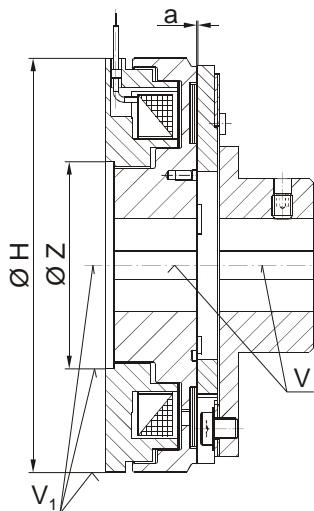

Fig. 5
- Centred on diameter "Z", Fig. 5 and Table 1.
- Centred on outer diameter "H", Fig. 5.
The maximum permitted centre offset "V1" acc. Table 1 must not be exceeded (Figs. 5 and 6).
Please observe the maximum permitted centre offset "V" according to Table 1 and Figs. 5 or 6.